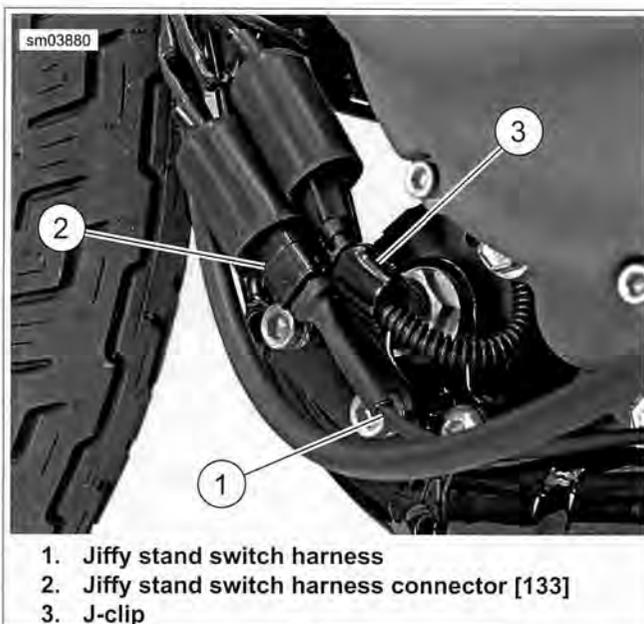

Figure 6-122. Jiffy Stand Switch Harness Connector
2. See Figure 6-122. Unplug jiffy stand switch harness connector [133] (2), located next to left front frame downtube.
4. See Figure 6-122. Plug jiffy stand switch harness connector [133A] (2) into main harness connector [133B].
See Figure 6-122. Do not route jiffy stand switch harness (1) through J-clip (3). This puts undue stress on harness wires. Harness could chafe against J-clip, possibly causing harness to fail.